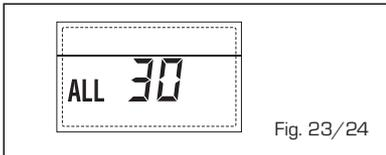

Fig. 23/24
- **CASCADE DELIVERY SENSOR ANOMALY "ALL 31" (fig. 23/25)**